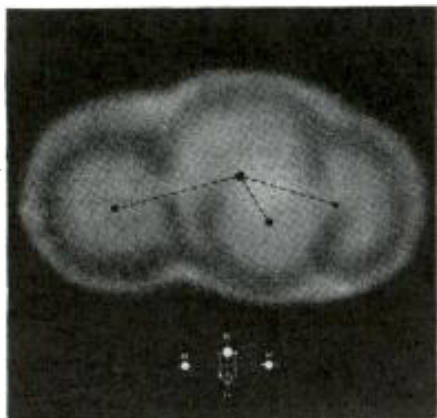
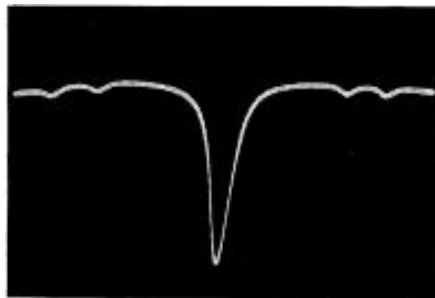
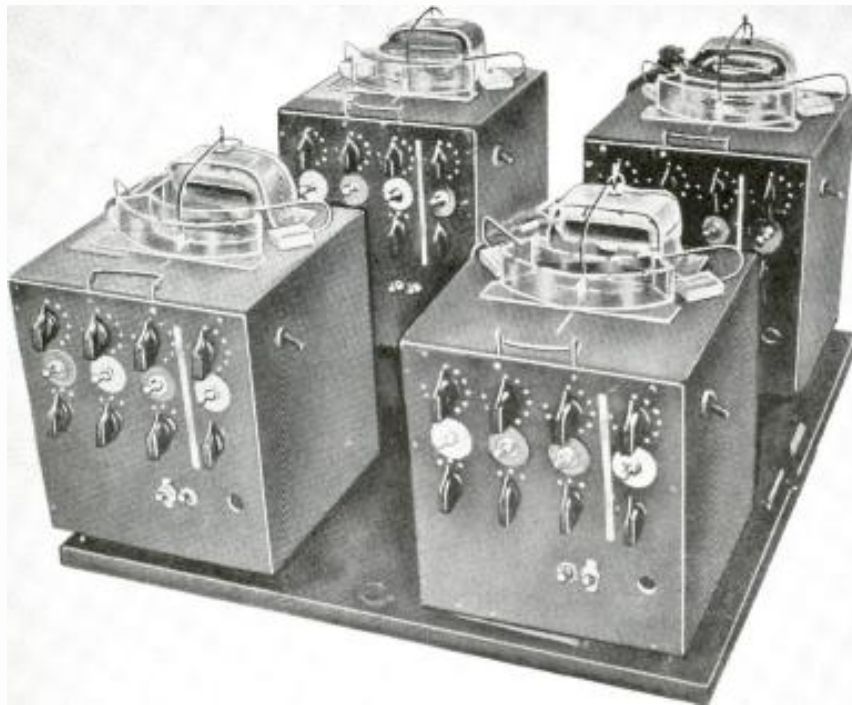

Fig. 1—R.f. alters nitrogen atom's position.
Fig. 2—Ammonia absorbs only one frequency.
Fig. 1—The homeostat, with its four units, each one of which reacts on all the others.
The ammonia molecule consists of three atoms of hydrogen and one of nitrogen, with the nitrogen atom slightly above the plane of the hydrogen atoms (Fig. 1). Outside forces (such as radio waves) can make the nitrogen atom change its position as shown in the figure, so that instead of being a flattened pyramid pointing upward (for instance), it becomes one pointing downward. A radio wave at the natural oscillating frequency of the nitrogen atom will cause large numbers of atoms to change their positions or oscillate back and forth, drawing power from the wave as they do. Thus ammonia gas absorbs power from a radio wave at its own frequency, and does not absorb power from nearby frequencies (Fig. 2). The gas molecule thus gives an exact frequency indication.
The homeostat consists of units, four of which are shown in Fig. 1. Each carries on top a suspended magnet, shown in Fig. 2, and the behavior of these four magnets provides the focus of interest.
Each magnet (M in Fig. 3) is affected by currents in the four coils around it, the currents coming partly from the other units (A, B, C) and partly as a self-feedback (D). (The apparently single coil of Fig. 2 is composed of the four coils of Fig. 3). In front of each magnet is a trough of water with electrodes at each end at  $-2$  v and  $-15$  v respectively. The magnet
Fig 2—Quadruple coil ABCD encircles magnet M which is suspended by the needle pivot. The suspending wire extends forward on its end into the water in the semicircular plastic trough which has electrodes at each end. Potential for the grid is taken from the pivot socket.